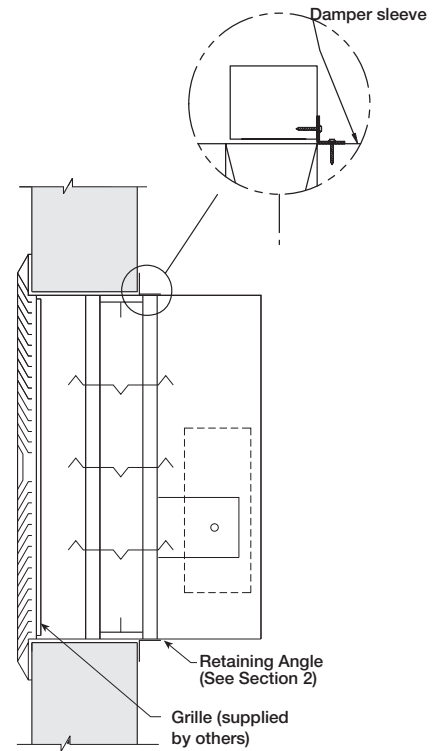

Figure 3
- Retaining angles for 1½ hour rated dampers with a width and height 48 in. (1219 mm) or less must be a minimum of 20 ga. (1 mm). Retaining angles for all 3 hour rated dampers and all dampers with a width or height greater than 48 in. (1219 mm) must be a minimum of 16 gauge (1.5 mm). The leg of the retaining angle on the damper sleeve shall be a minimum of 1¼ in. (32 mm). The leg of the retaining angle on the wall/floor shall be long enough to cover the annular space and overlap the wall/floor by a minimum of 1 in. (25 mm)(see **Figure 3**).